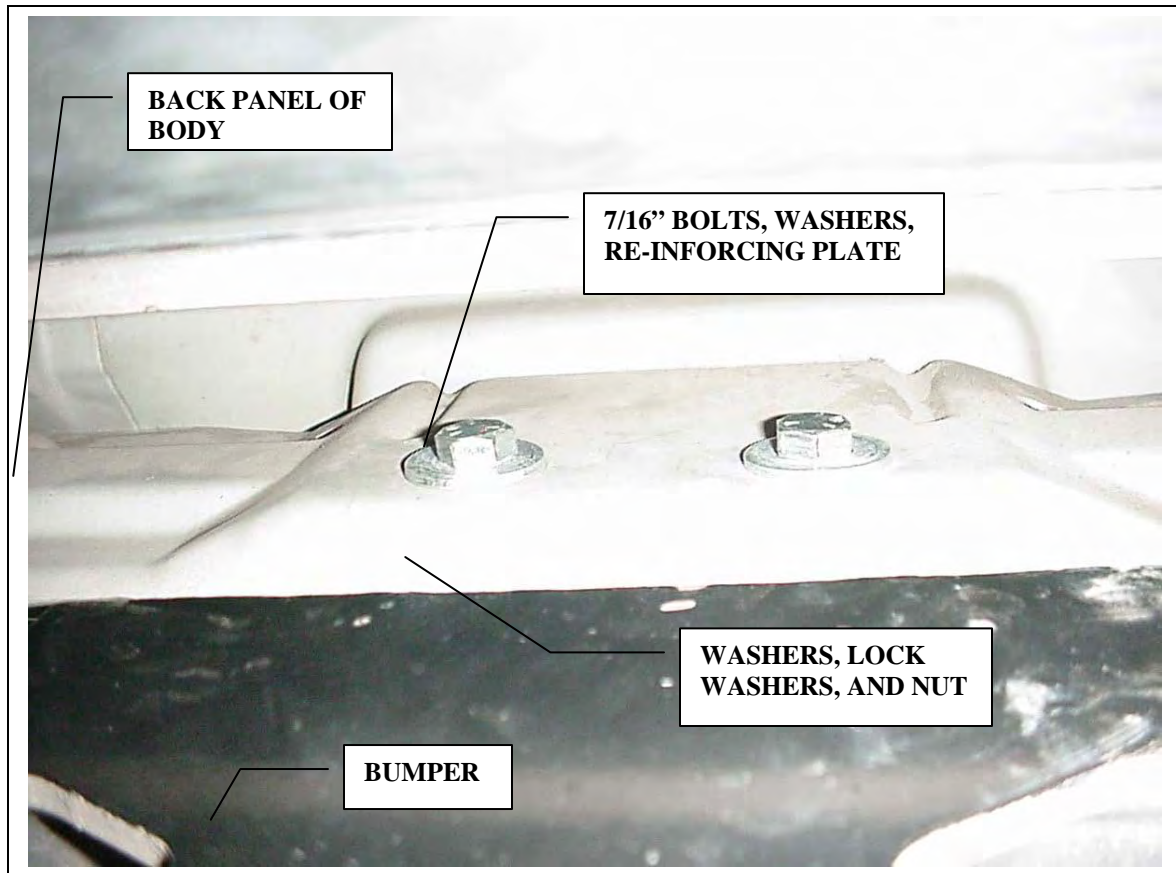

Figure 15, Center Mounting Bolts
17. Install center-mounting bolts on **1984-1996 models only**. Install the remaining two 7/16" bolts with washers behind the bumper. Install a washer, lock washer, and nut onto each bolt and torque. **See Figure 15.**